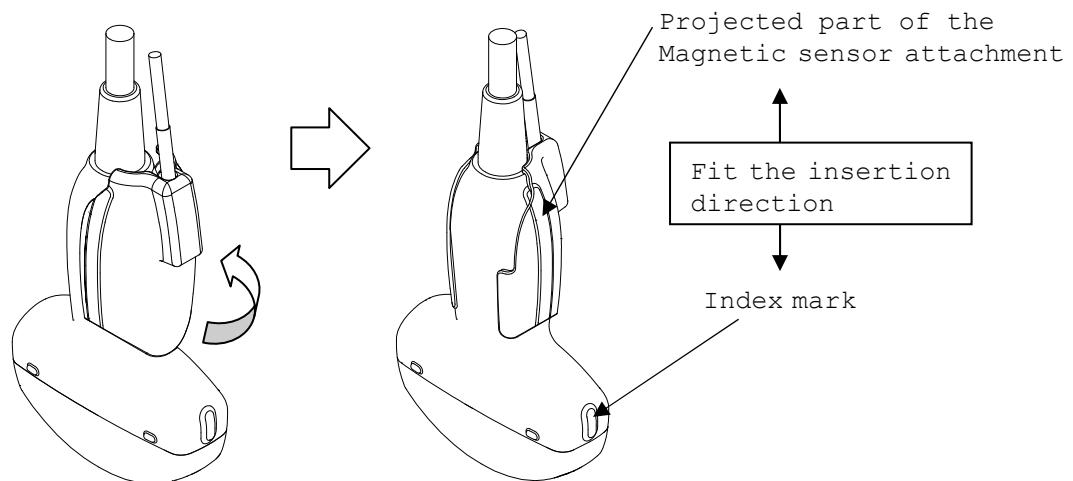

Fig.10 How to attach the Magnetic sensor attachment
- 2) Place the magnetic sensor attachment on the probe as shown in Fig.10. Fit the projected part of the magnetic sensor attachment in the index mark of the probe.